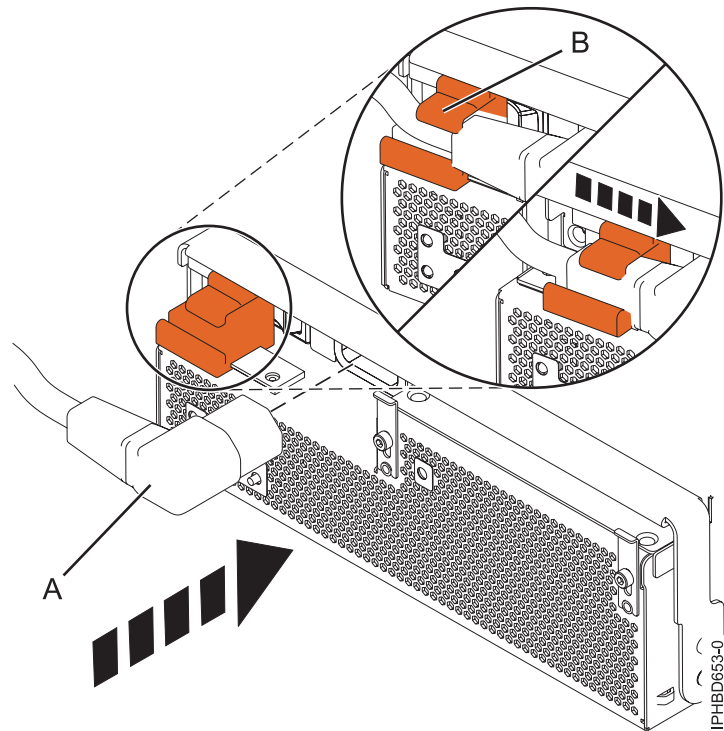

Figure 19. Connecting the power cable to the front of an expansion unit
8. Connect the power cable (A) to the front of the power supply, and then slide the cable retention bracket (B) to the closed position to secure the cable as shown in Figure 19.